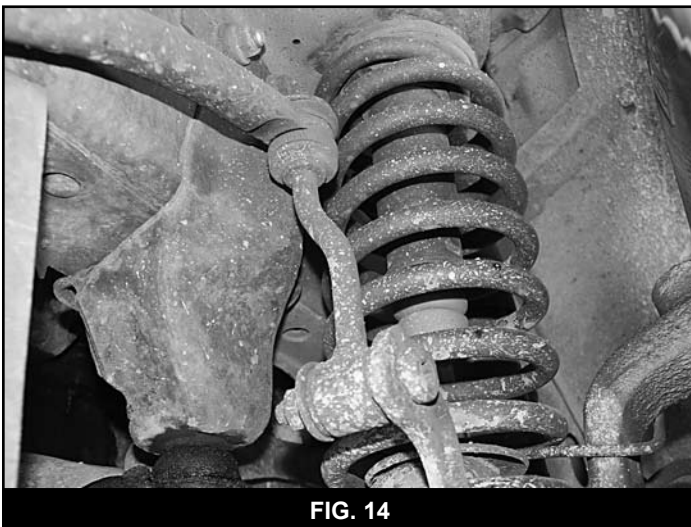

FIG. 14
34. Remove OE sway bar end links and discard (Fig 14).